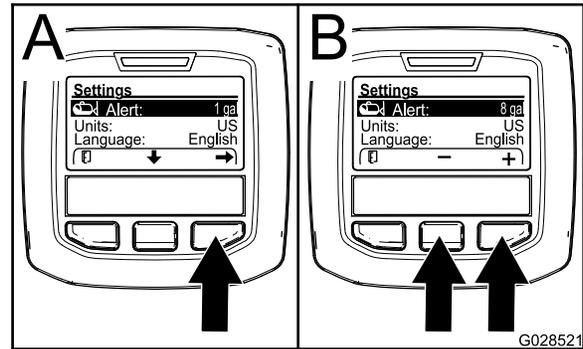

Figure 23
2. Press the center selection button to highlight the Alert setting (Figure 23).
3. Press the right selection button (Figure 23).
4. Use the center or right selection buttons to enter the minimum quantity in the tank when the alert displays during sprayer operation (Figure 23).